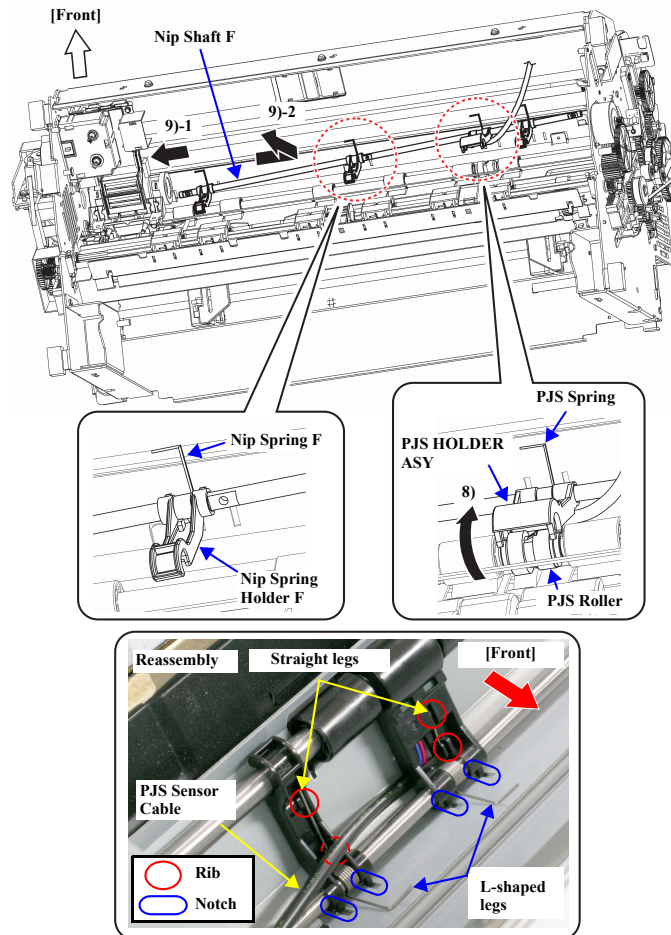

Figure 4-81. PJS HOLDER ASY Removal (2)
- Route the PJS sensor cable as shown in Figure 4-81